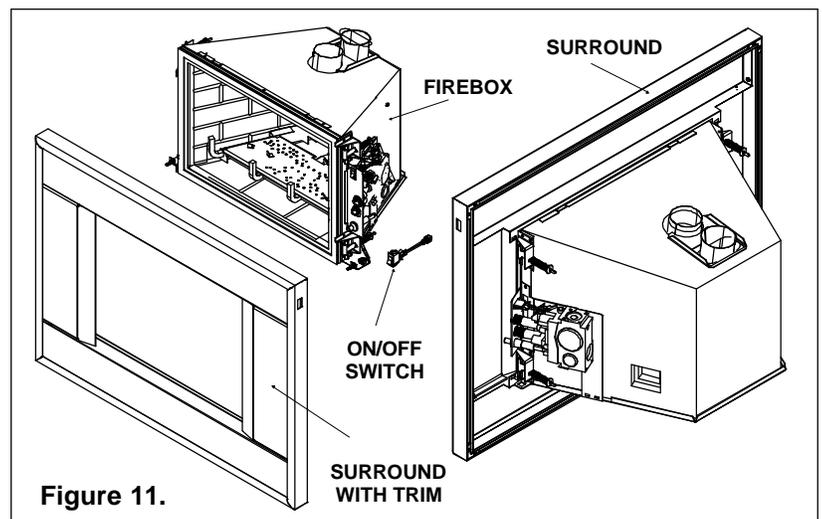

Figure 11.
1. Find the coiled low voltage wires and ON/OFF switch attached to outer right side of the insert (Figure 11).